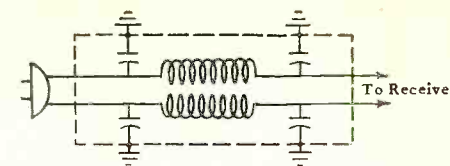

Fig. 3—Power Line Filter
1. An appropriate filter may be used at the antenna input or in the power line, or both. Fig. 2 shows a high pass filter for use at the antenna input, while Fig. 3 gives the details of a power line filter. These filters are available commercially or they may be easily constructed.